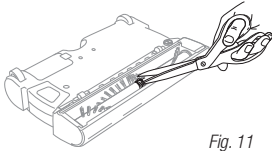

Fig. 11
- 3 Remove all hair, string or fibers wrapped around the brush bar. Using a pair of scissors, carefully cut along the raised guide to remove anything wound around the brush bar. Avoid damaging or cutting the bristles. (Fig. 11)